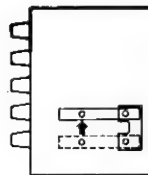

Fig 9.
b) Move the output transformer mounting plate to the upper position. To move the output transformer mounting plate, remove the fixing screw and loosen the track screw shown in Fig. 9. The plate may then be slid along the track into the upper position. Replace the fixing screw in the upper screw hole and retighten the track screw.